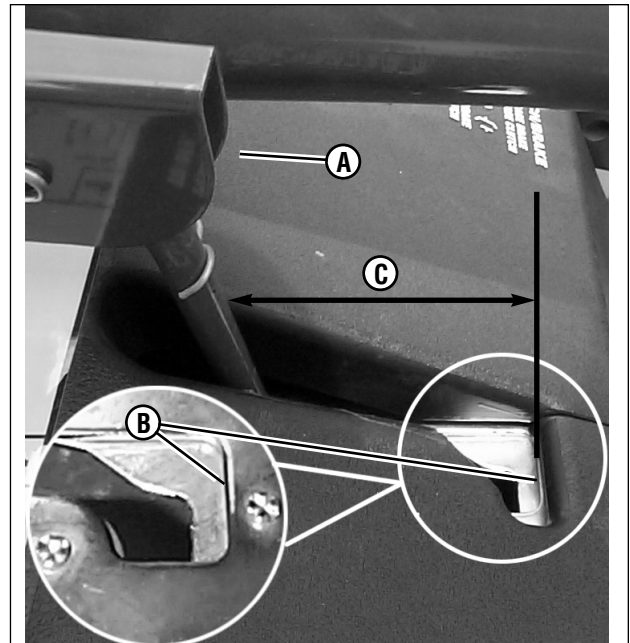

Figure 32: Measuring blade brake clearance
1. With the blade engagement lever disengaged, measure the distance between the front of the blade lever (**A**, **Figure 32**) and the edge of the latch plate (**B**). The dimension (**C**) should be 3" to 3-1/4" clearance between the lever and the edge of the plate. If the dimension is incorrect go to step 2.